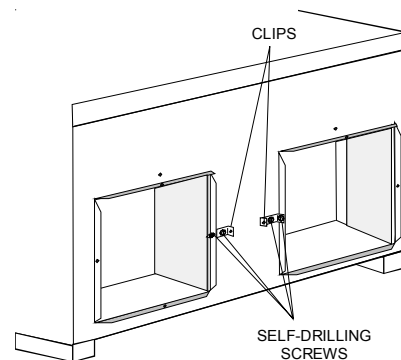

Figure 11 - Cover Clip Installation
- Install cover clips (included with unit) on the inner flange sides using existing flange hole (Figure 11).